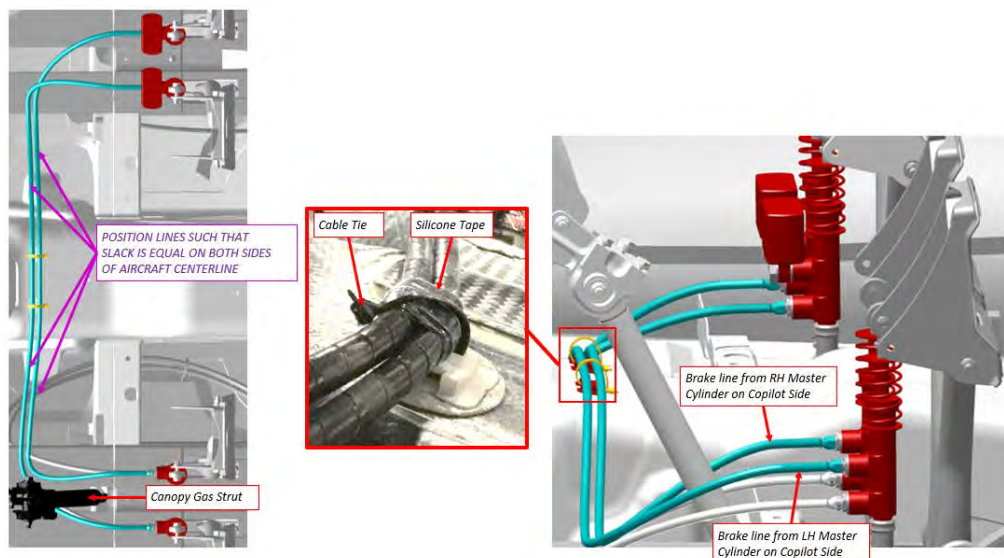

FIGURE 15-8
6. Route the line as shown in Figure 15-8.